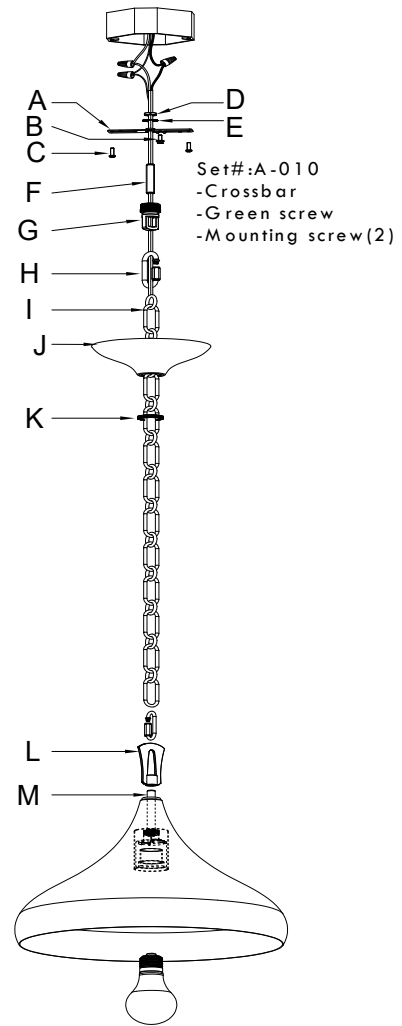

Fig.2
CONNECTING THE WIRES (Fig.2)
9. Connect the electrical wires as shown in Fig.2, making sure that all wire connectors are secured. If your junction box has a ground wire (green or bare copper), connect fixture's ground wire to it. Otherwise, connect fixture's ground wire directly to crossbar (A) using green screw (B) provided.